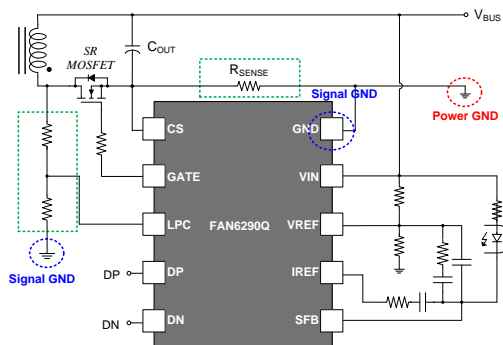

Figure 26 Power and Signal Ground on the Secondary-Side
- The main power flows through Q_2 , C_{OUT1} , C_{OUT2} and R_{CS} . This power path should be separated with signal grounds which are connected to FAN6290Q. In addition, it is recommended that power ground is directly connected to Y-cap. Refer to Figure 26.